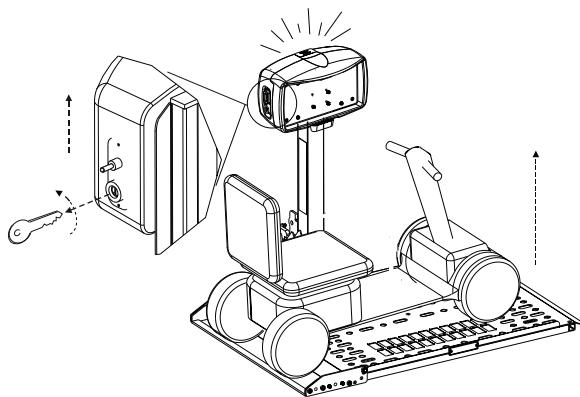

Figure 7-5
3. Remove the key. *See Figure 7-5.*